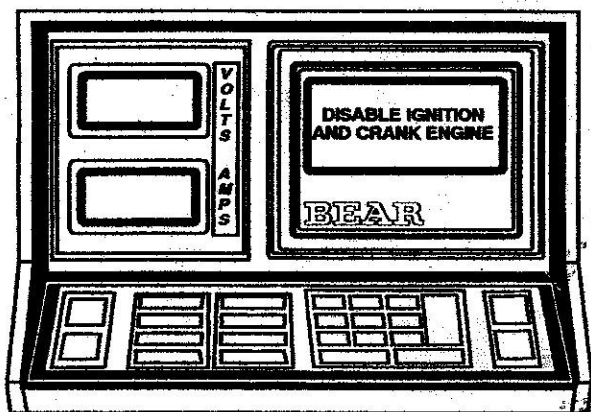

Figure 10
- B. Display reads "DISABLE IGNITION AND CRANK ENGINE" (see Figure 10). Disable the ignition so the engine will not start when cranked (see previous page.) When vehicle is disabled, crank the engine.